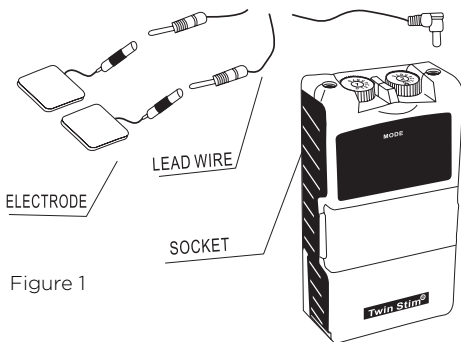

Figure 1
Insert the lead wire connector into electrode connector (standard 0.08 inch female connection) (Figure 1). Make sure the connectors are completely pushed together showing no exposed metal of the pins.
2. Insert the wires provided with the system into the jack sockets located on top of the device (Figure 1).
3. Holding the insulated portion of the connector, push the plug end of the wire into one of the jacks (Figure 1); one or two sets of wires may be used.